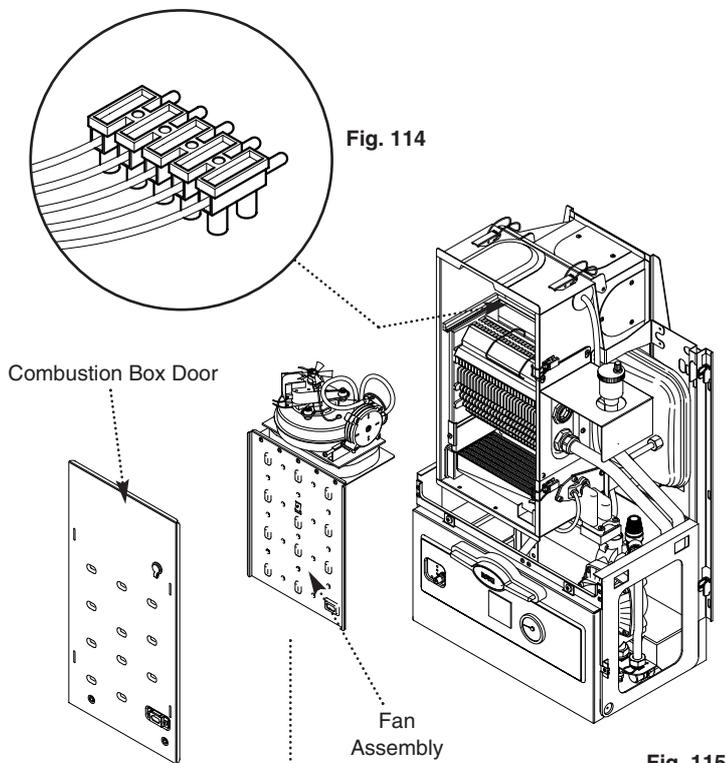

Fig. 114
3. Disconnect the 5-pin pressure switch and fan plug (Fig. 114). Withdraw the fan assembly by pulling forwards from the top edge (Fig. 115).